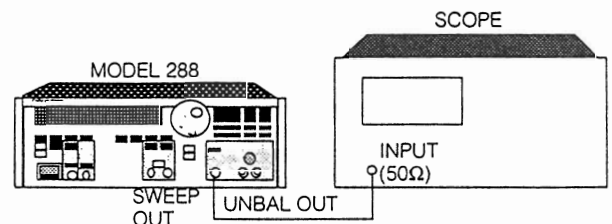

Figure 2-4. Waveforms/Sweep Verification
2. Connect the Model 288 and test equipment as shown in figure 2-4.
2. Connect the Model 288 and test equipment as shown in figure 2-4. Verify 50 $\Omega$  source into 50 $\Omega$  feed-thru termination.